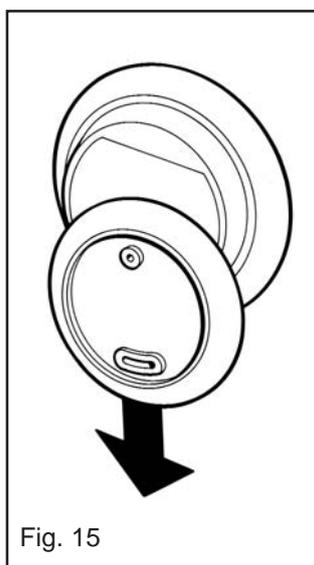

Fig. 15
- Remove backplate from the rear of the Handset by sliding down with hand and away from the Handset (See Fig.15).